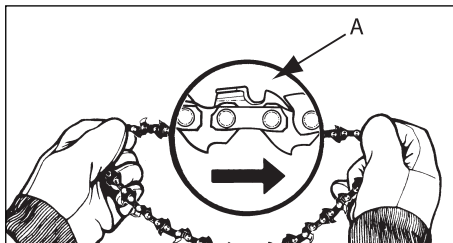

Fig. 4A
1. Spread chain out in a loop with cutting edges (A) pointing **CLOCKWISE** around loop (Fig. 4A).